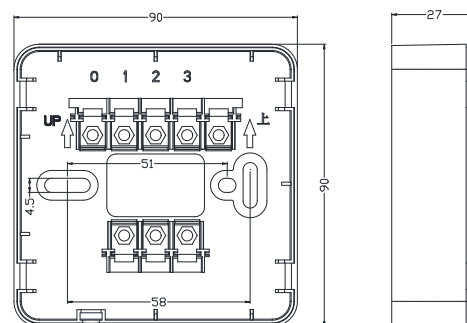

Fig.6
The installation of the manual call point requires a matching base. The supporting base is shown in Fig.6. The dimensions of the base are 90mm x 90mm x 27mm (L x W x H), the diameter of fixed holes is Ø4.5mm, and the spacing of fixed holes is 45mm to 63mm. The pipe inlet wires are routed through the lower part of the base.
- According to the construction drawings, use two M4 screws to fix the base to the specified position through the fixing holes shown in Fig.6 (there should be no shielding at least 20cm on one side of the resetting hole), and ensure that the base is installed firmly.